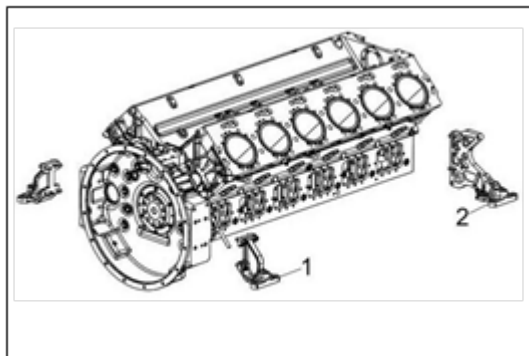

Figure 110.
2. Remove the engine bracket group (Figure 110).